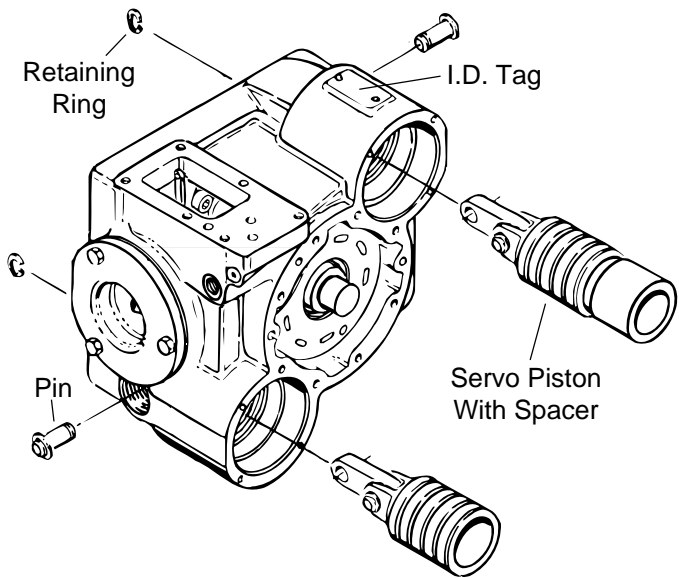

Figure 26
**75** Install the servo pistons. The servo piston with the spacer goes in the servo sleeve opening with the I.D. tag, as shown in figure 26.